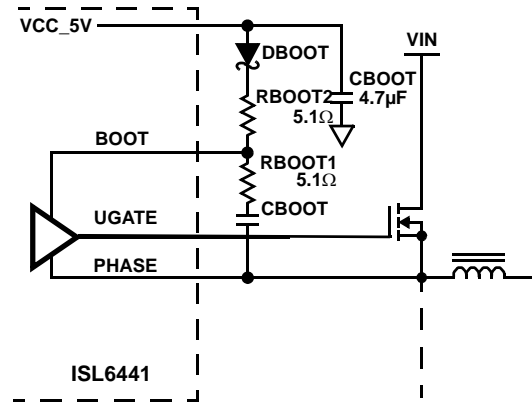

FIGURE 15. GATE DRIVER
**BOOT2, BOOT1** - These pins power the upper MOSFET drivers of each PWM converter. Connect this pin to the junction of the bootstrap capacitor (CBOOT) and the cathode of the bootstrap diode. The anode of the bootstrap diode is connected to the VCC\_5V pin. It's highly recommended to add a 5.1Ω resistor in series with CBOOT and another 5.1Ω resistor in series with the bootstrap diode to prevent the overcharge of CBOOT which may cause overvoltage failure between BOOT and PHASE pin (Figure 15). Refer to "Gate Drivers" on page 12 for detailed descriptions.
The low-side gate driver is supplied from VCC\_5V and provides a peak sink/source current of 400mA. The high-side gate driver is also capable of 400mA current. Gate-drive voltages for the upper N-Channel MOSFET are generated by the flying capacitor boot circuit. A boot capacitor (CBOOT at Figure 15) connected from the BOOT pin to the PHASE node provides power to the high side MOSFET driver. It's highly recommended to add a small resistor (RBOOT1 at Figure 15, 5.1Ω typical) in series with CBOOT and another small resistor (RBOOT2 at Figure 15, 5.1Ω typical) in series with the bootstrap diode to prevent the overcharge of CBOOT that may cause overvoltage failure between BOOT and PHASE pin (Figure 15). RBOOT1 also functions as the resistor in series with the Ugate for damping the upper gate driving and phase node oscillations, which helps to improve the EMI performance. But this resistor will slow down the turn-on of upper MOSFET, so RBOOT1 can't